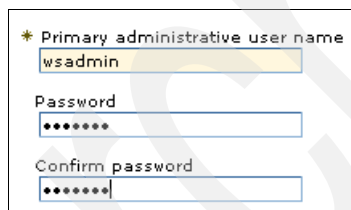

Figure A-62 Security Configuration Wizard: Step 3 for WebSphere Process Server
5. In Step 3, enter the following values (Figure A-62):